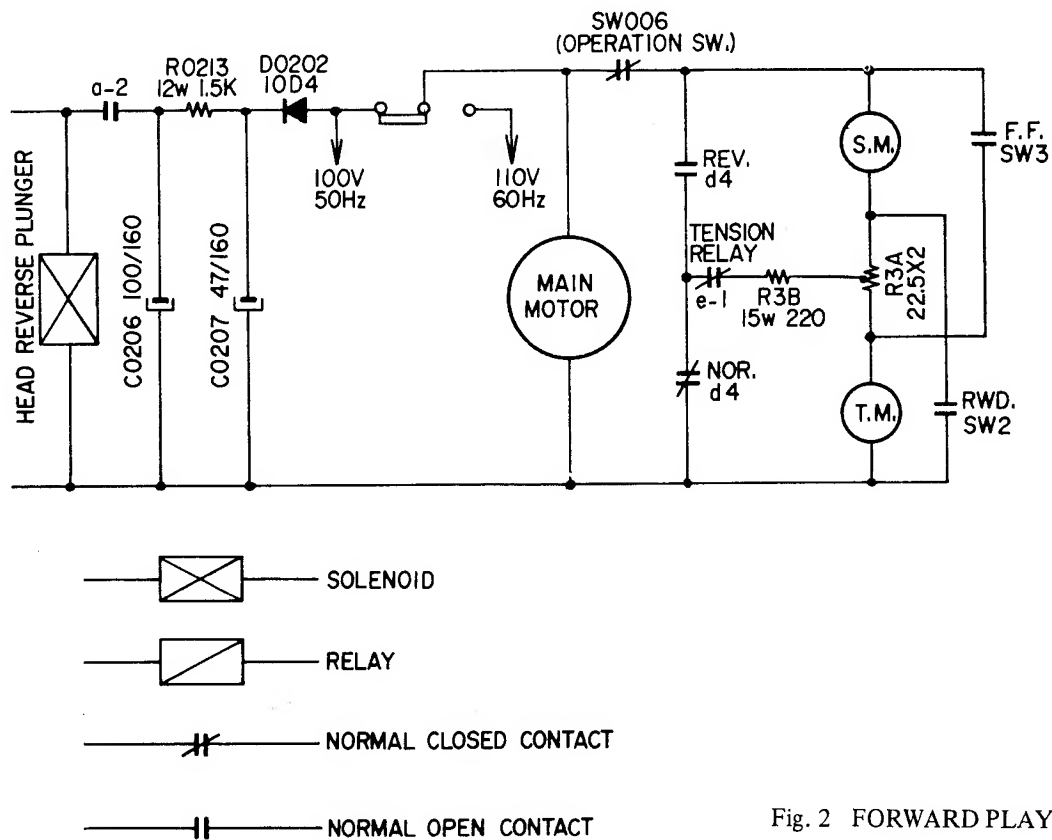

Fig. 2 FORWARD PLAY
When Recording/Playback Lever is set to PLAY position, the Pinch Roller Presses against Capstan to move the tape at the rated speed. The Brake Levers free the Brake, and Lever Spring (G) turns "on" Micro SW (SW 006 operation switch). System control TR0201 is turned "off", TR0202 "on", and TR0203 & TR0204 "off". About a 60V current is supplied to the take-up motor and about 30V to the supply motor, so that the torque motors become operative. (See Fig. 2)